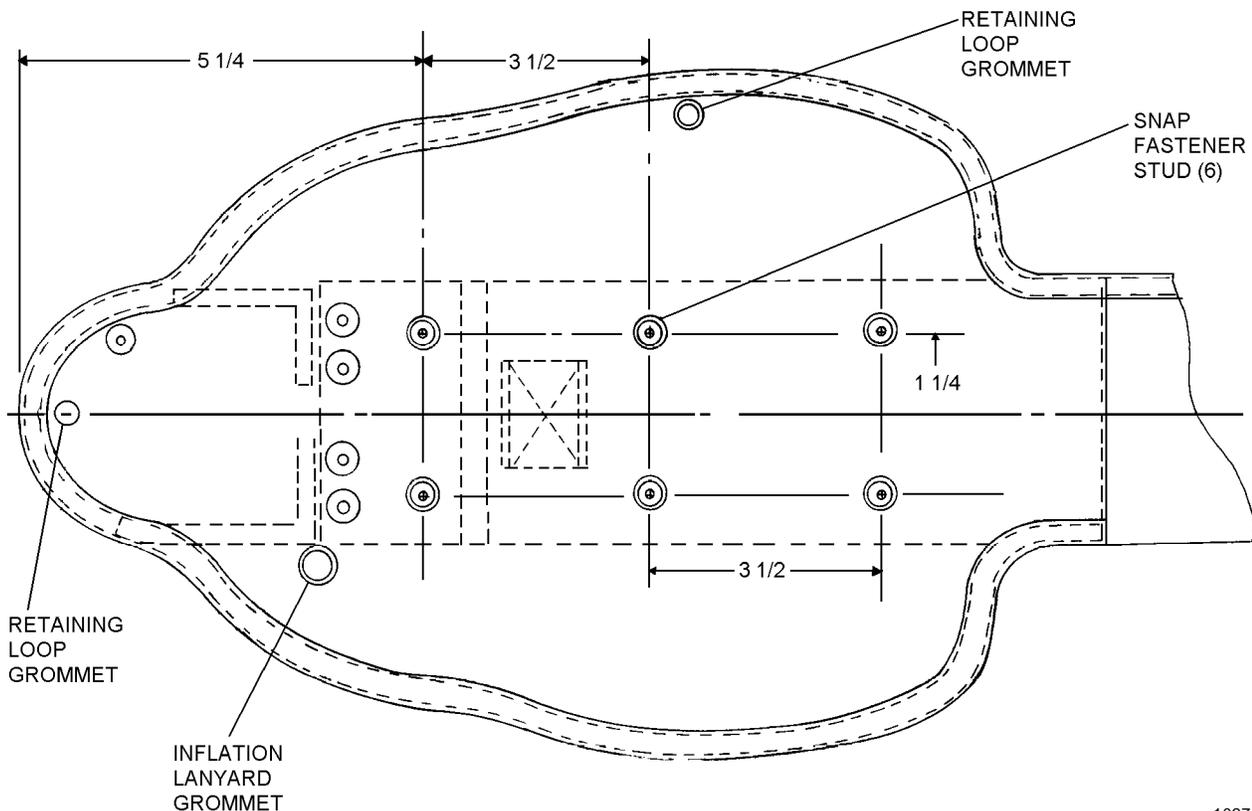

Figure 27-20. Installation Casing Attachment Patch Snap Fastener Studs
1. Spread casing assembly flat on clean level surface. Hold in flat non-directional position using thumb tacks or other available means not harmful to fabric. See figure 27-20.
2. Measure and mark snap fastener positions using dimensions in figure 27-20. Remove restraints from casing.